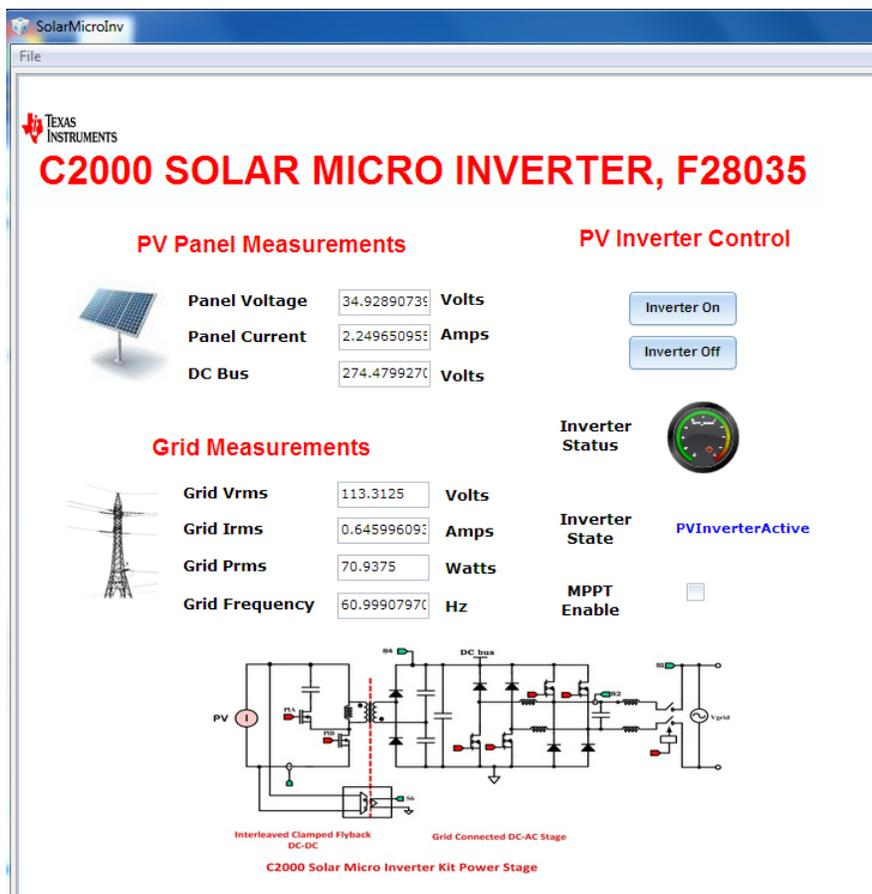

Figure 5. Solar Micro Inverter Release GUI
4. Execute the “launcher” application by double clicking. This application will connect to the board and flash the release image on the board. A screenshot of the Release GUI is shown in Figure 5.